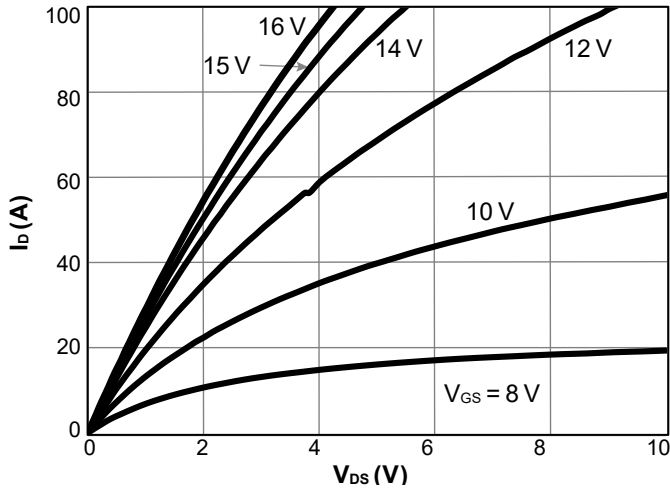

Figure 1. On-Region Characteristics  $T_J = 25^\circ\text{C}$
- The static characteristics in Figures 1 to 8 are obtained using <300ms pulses, duty cycle 0.5% max.